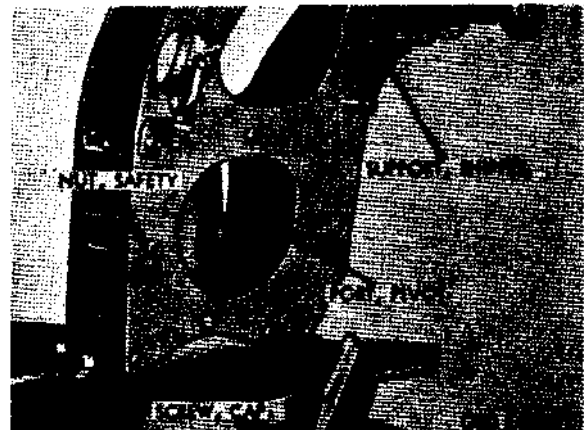

Figure 471. Disconnect points for shipper support removal
- (1) Remove pivot post and shipper support.
- (a) Remove ten safety nuts and cap strewn and two cap screws and lockwashers from shipper support (fig. 471). Remove support from pivot post.